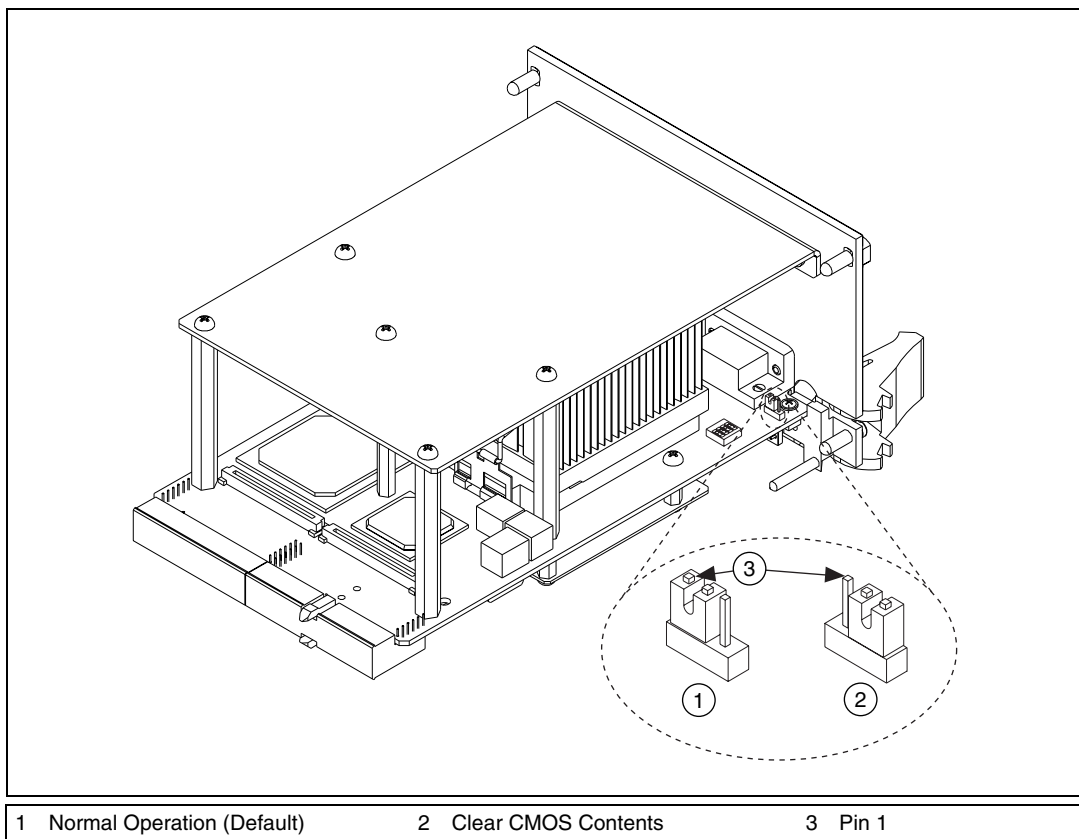

Figure 2-3. Clearing the CMOS Contents (NI PXI-8185 Shown)
3. Move the jumper on J1 from pins 1-2 to pins 2-3, as shown in Figure 2-3.
Note For clarity, the battery is not shown in Figure 2-3.